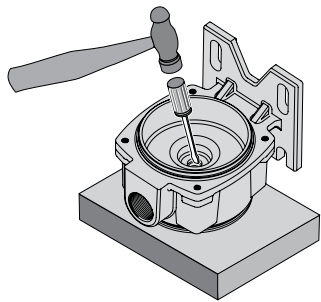

Figure 6
4. Turn the bracket motor side up on the bench and use a screwdriver to carefully tap the stationary seal half out of the bracket (see Figure 6).